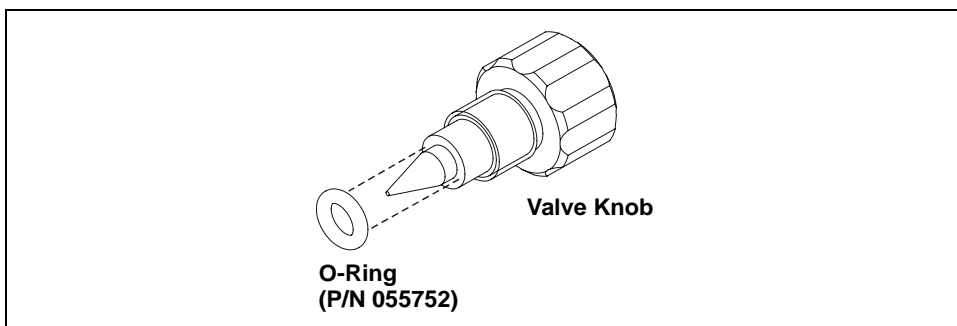

Figure 5-8. Waste Valve or Priming Valve O-Ring Replacement
- If the O-ring is removed with the valve knob in Step 3, pull the O-ring off the end of the knob (see Figure 5-8). If the O-ring is not removed with the valve knob, insert a thin object (for example, the bent end of a paper clip) into the cavity in the pump head and carefully pull out the O-ring. **Do not scratch the cavity.**